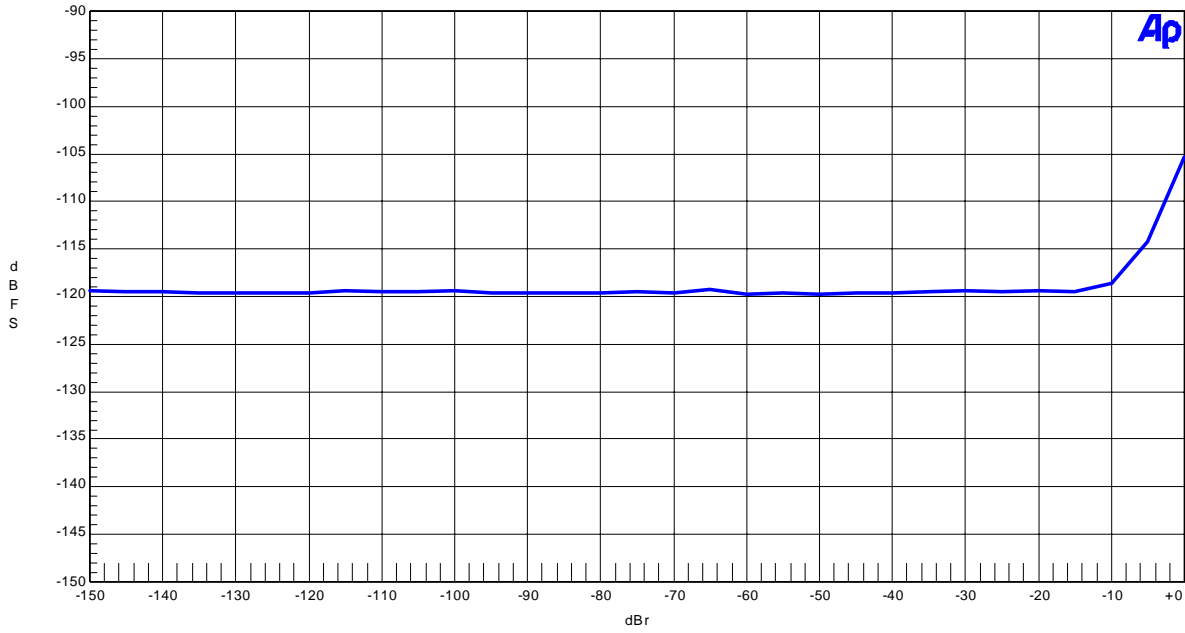

Figure 1-1-5. THD+N vs Input Level (1kHz input)
- Figure 1-1-5. THD+N vs Input Level (1kHz input)